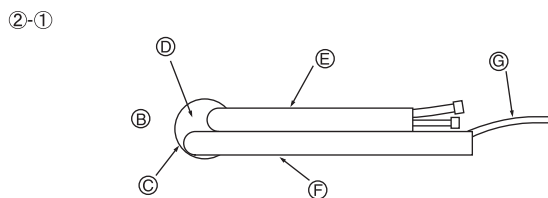

Fig. 3-5
② Left and left rear piping
②-① For left rear piping, pull the pipes out the hole to determine their correct length, then bend them. The indoor unit should hang on the wall mounting fixture. (Fig. 3-5)